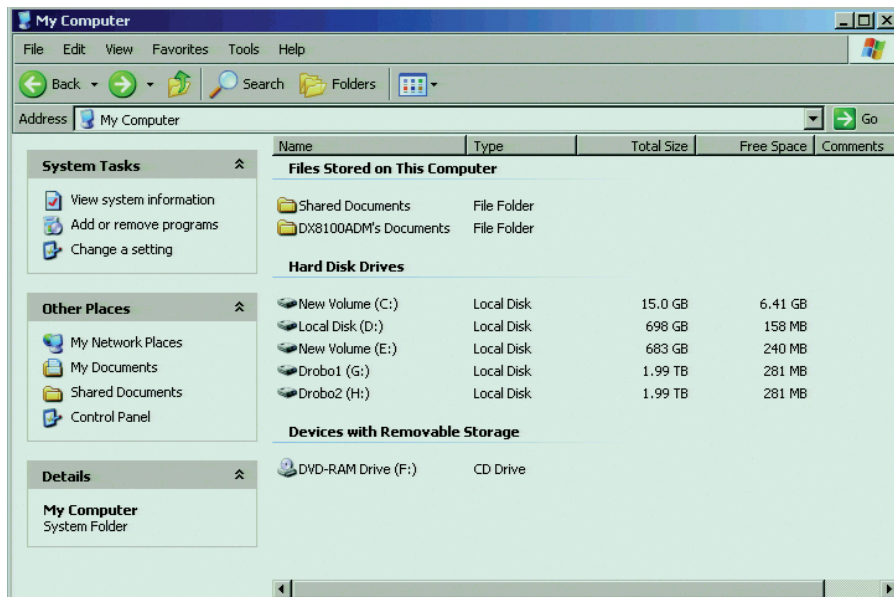

Figure 84. Example: Drobo JBOD Drives (G: and H:)
6. Open Windows Explorer and verify that the JBOD drive is listed in the Explorer window. For example, the Drobo™ drives are listed in Figure 84.